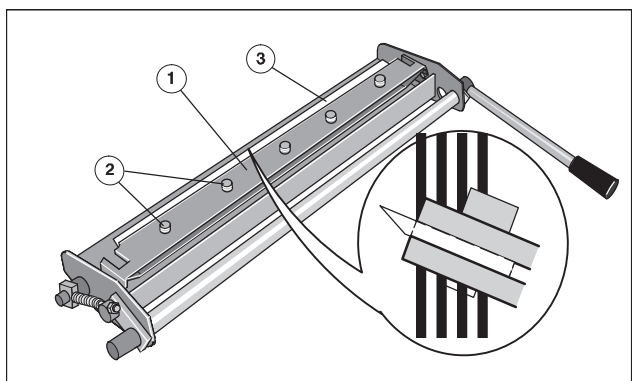

Fig. 73 Washup device, PU 2
1. Remove the plastic lip with the support (Fig. 73/1) from the washup device.
2. Loosen all screw fasteners (Fig. 73/2) of the plastic lip.
3. Replace the plastic lip (Fig. 73/3); the **beveled side** of the plastic lip must be directed **downwards**.
4. Retighten the screw fasteners (Fig. 73/2).